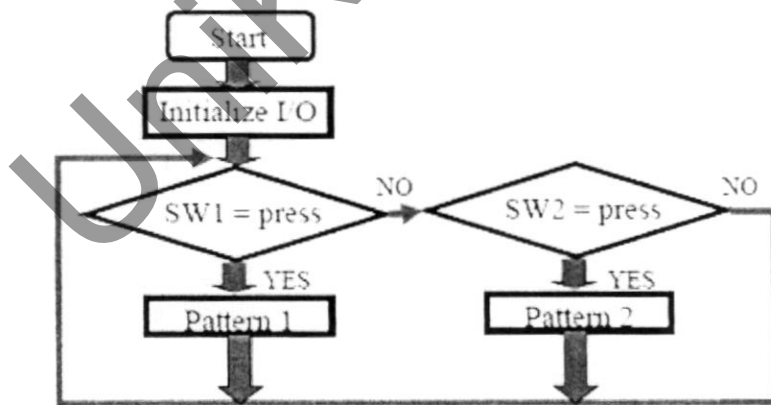

Figure 5: Pattern Control Flow Chart
- a. With the buzzer which connected to RC2 and the 3 LEDs that connected to RD5, RD6, and RD7, design **TWO (2)** different LEDs blinking patterns including buzzer. (6 marks)
- b. Figure 5 is the flow chart which shows using switch SW1 and SW2 to control LEDs and the buzzer with patterns you designed in question (a). Write C code according to this flow chart.